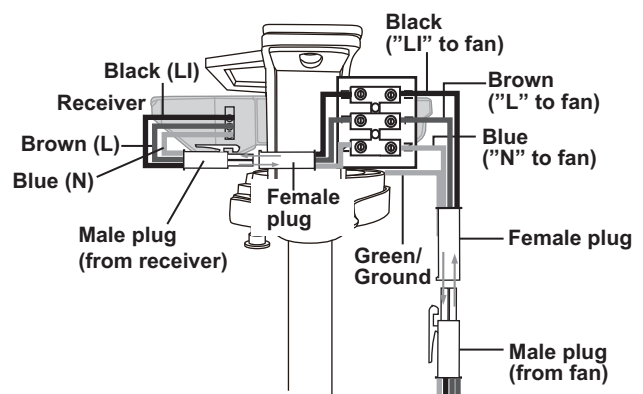

Figure 10
5. Be sure to connect the male plug (from receiver) and female plug (from terminal block) together. (Fig. 10 & 11)
6. Be sure to snap together the male and female plugs. (Fig. 10 & 11)